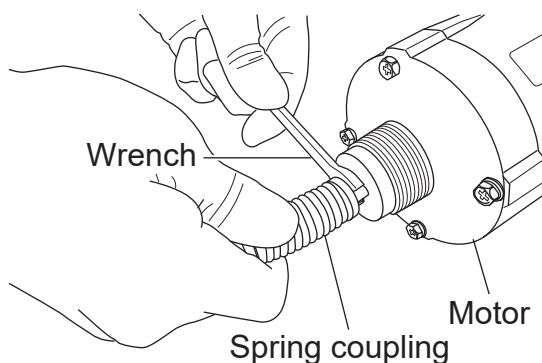

Figure 5
3. Remove the spring coupling fixed to the motor with the wrench. (Figure 5)
2. Assemble the spring coupling to the motor. (Figure 5)